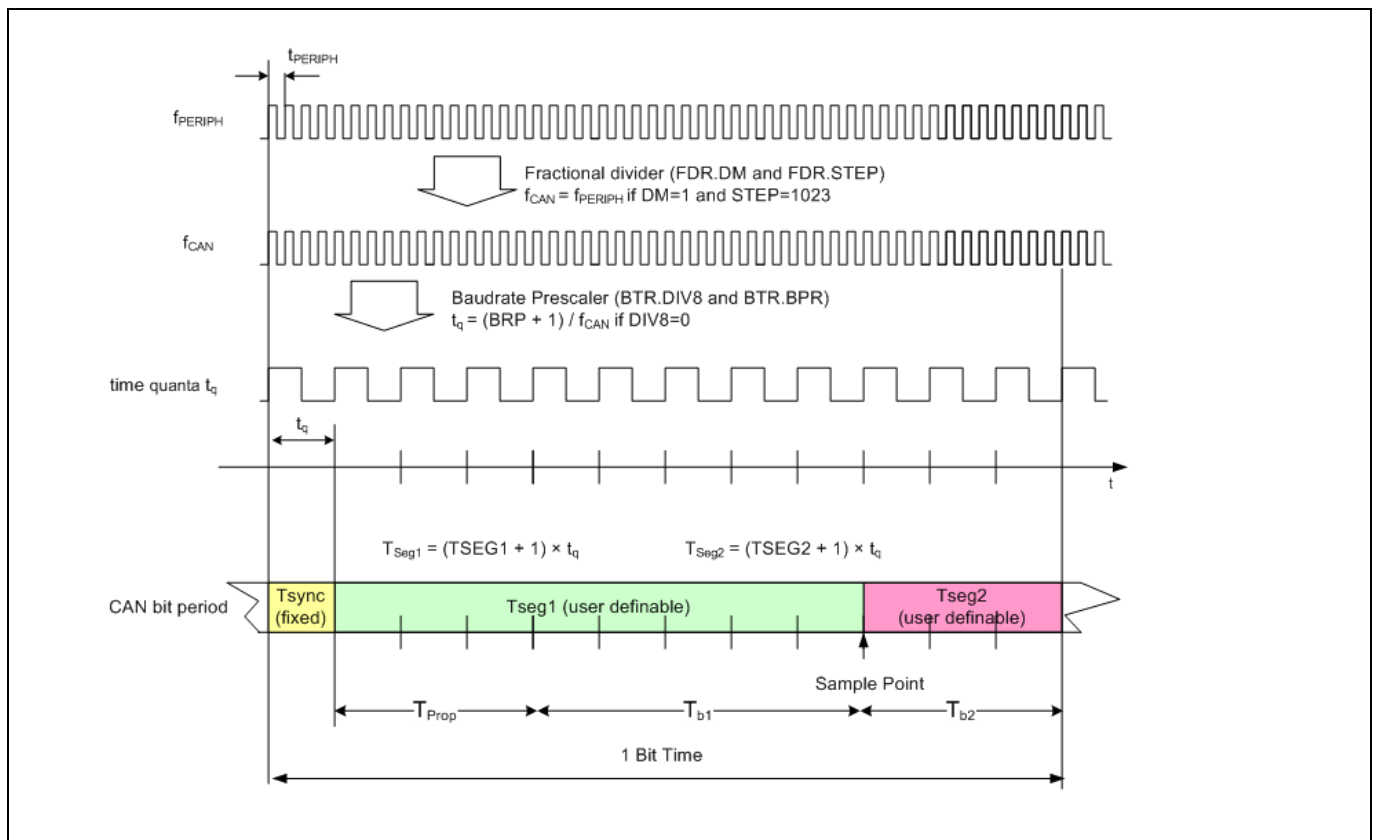

Figure 9 MultiCAN bit timing
- Enable clock for MultiCAN module (see Figure 9)